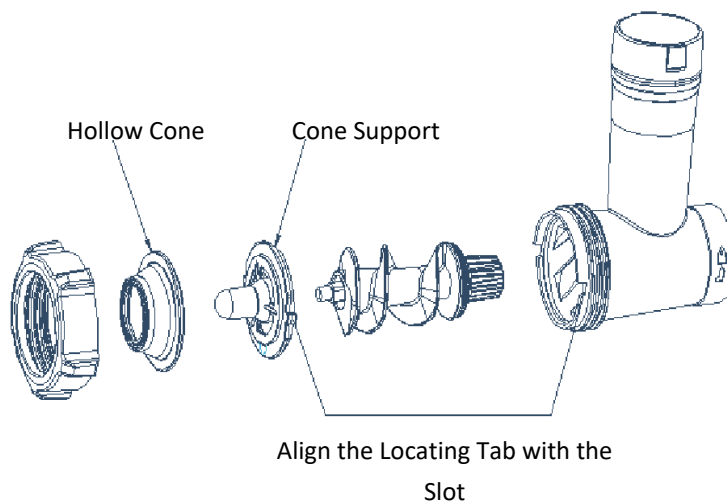

Fig. 8
6. Making Kebbe: Switch off and unplug the appliance. Assemble the kebbe attachment as shown in Figs. 8 and 9, then secure it with the locking nut.